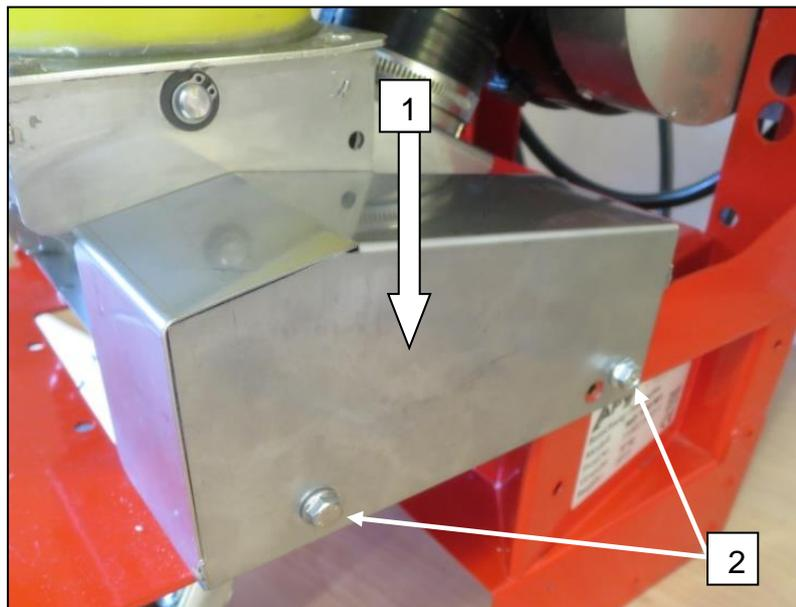

Fig.: 52
- To install the seeding shaft motor cover, insert from top to bottom **1** over the seeding shaft motor and fix it with the existing bolts **2** (Fig.: 52).